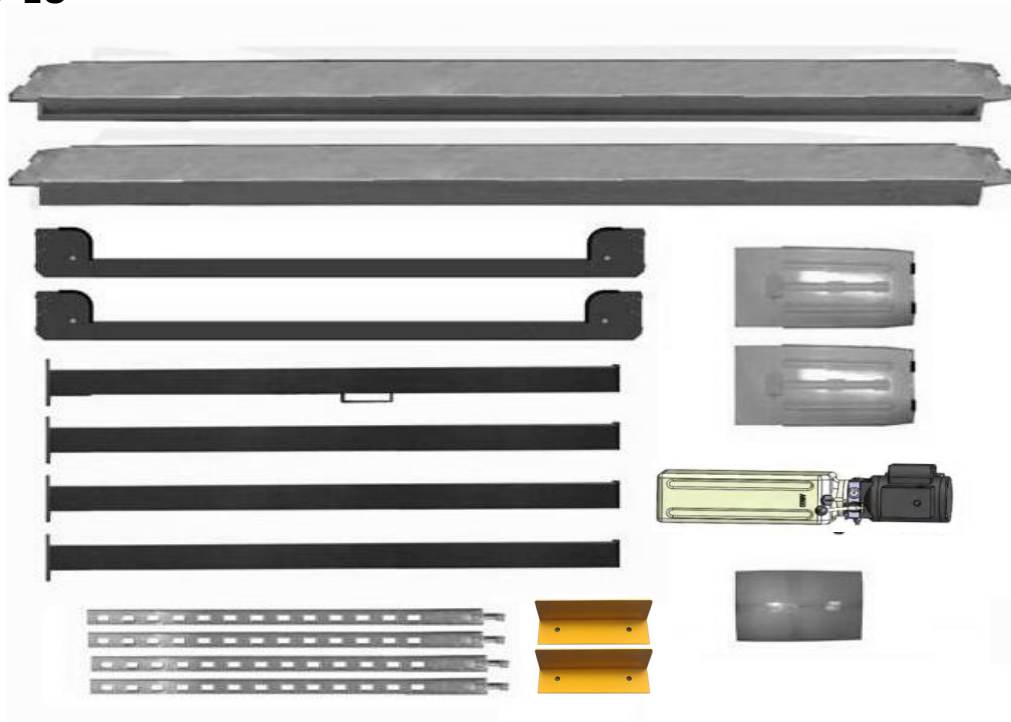
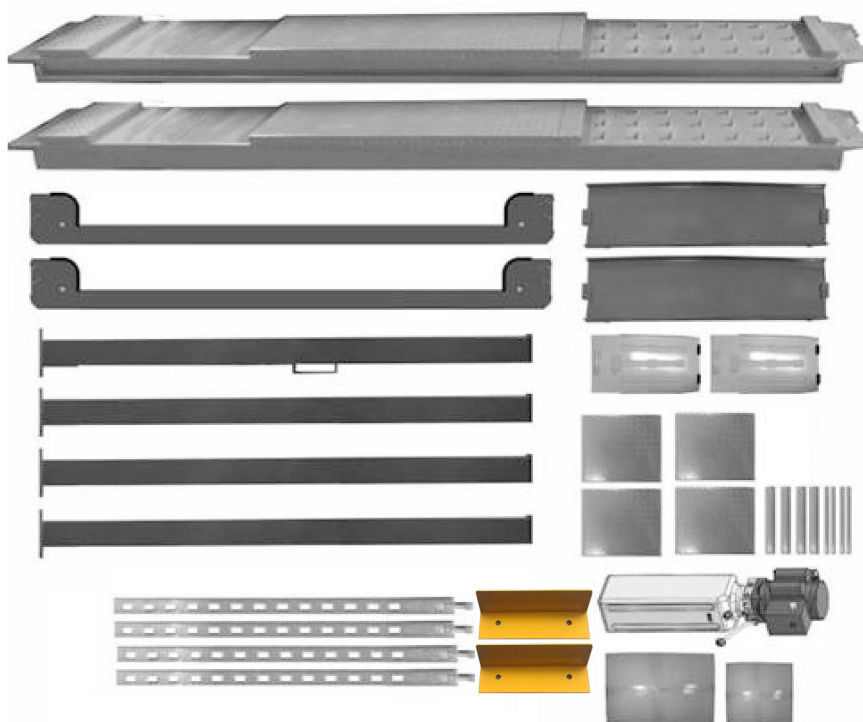

Fig.9
Fig.10
6. Move aside all the parts to the installation position and check the parts according to the parts list (See Fig. 9, Fig.10).